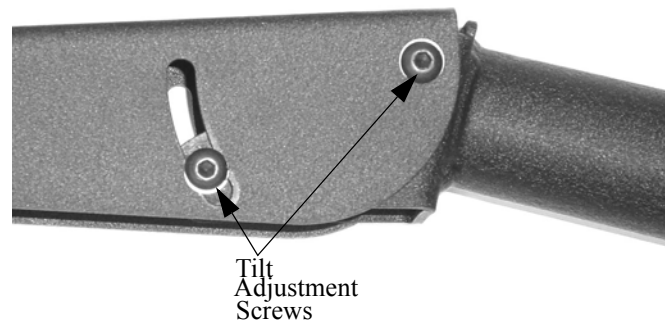

Figure 7. Tilt Adjustment
1. Loosen the four 5/16-18 button head cap screws (see Figure 7).